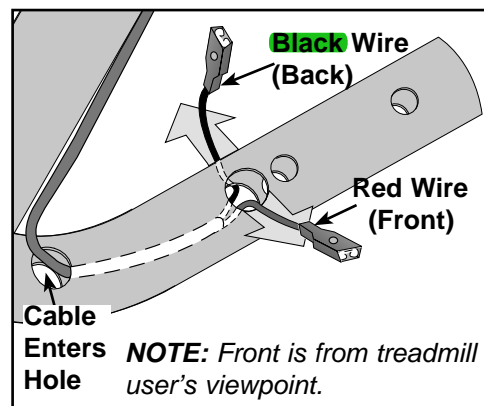

Figure 26
- Fold the each cable and place it into the hole that leads to the grip. See Figure 26.
- Push each wire out a hole (red out the front hole and black out the back hole). See Figure 26.